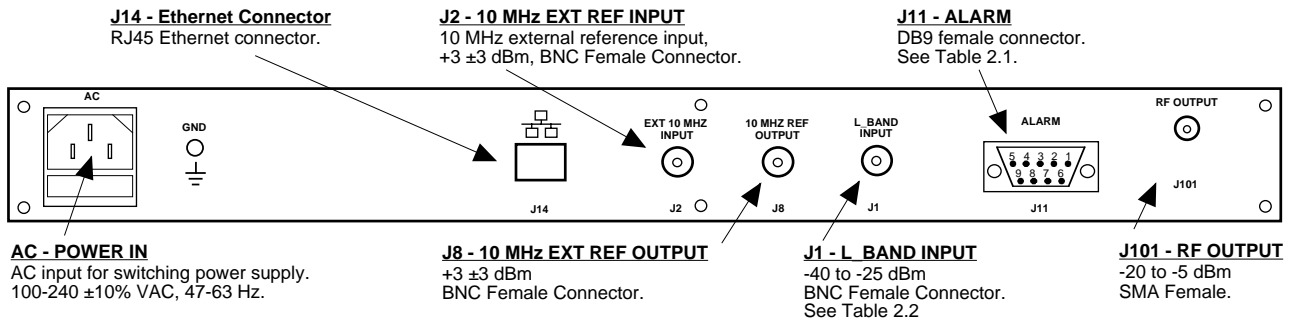

FIGURE 2.1 3115-117 Rear Panel I/O's
Figure 2.1 shows the input and output connectors on the rear panel.
1. Connect a -40 dBm to -25 dBm signal to L-Band IN, J1 (Figure 2.1).